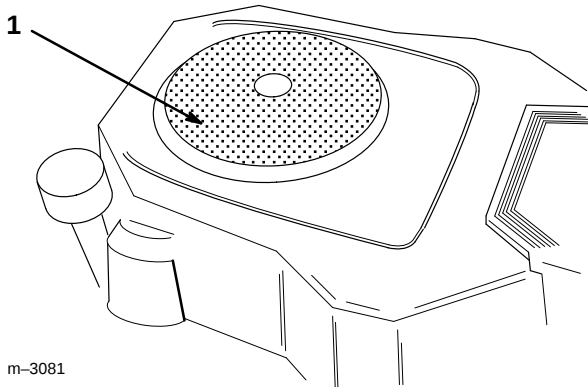

Figure 22
1. Clean off engine air intake (Fig. 22).